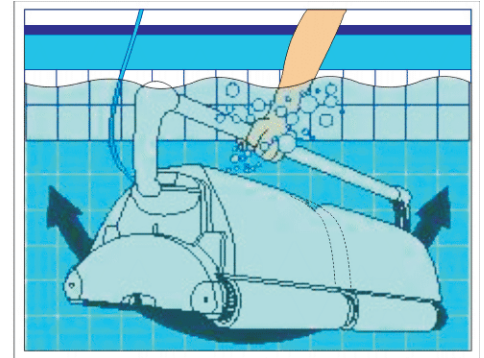

Fig.3
- (1) Locate a GFCI 110 V~ac. receptacle, and plug the Power Supply in.
- (2) Completely immerse the cleaner in water.
- (3) While the cleaner is in the water, gently tilt it side to side (fig3). This will allow any trapped air to escape through the pump outlets. Then, with a gentle push, allow the cleaner to sink to the bottom of the pool.